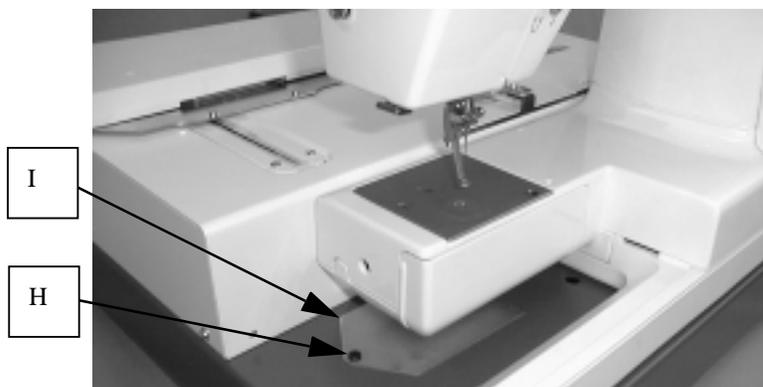

FIGURE 10-6
III. Remove set screw 4x6.5(H), and remove shuttle cover.(I) Fig.10-6.